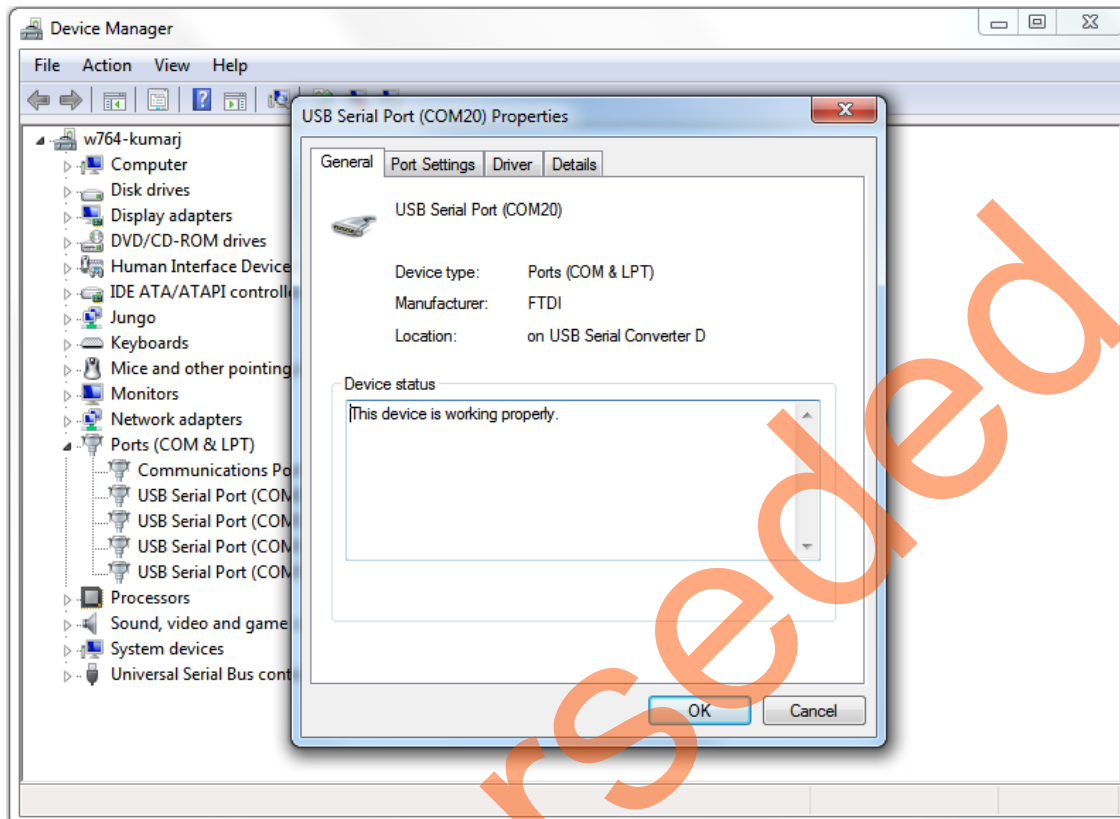

Figure 11 • USB to UART Bridge Drivers for SmartFusion2 Security Evaluation Kit
5. Ensure that the USB to UART bridge drivers are automatically detected. This can be verified in the **Device Manager** of the Host PC. Figure 11 shows the USB Serial port.